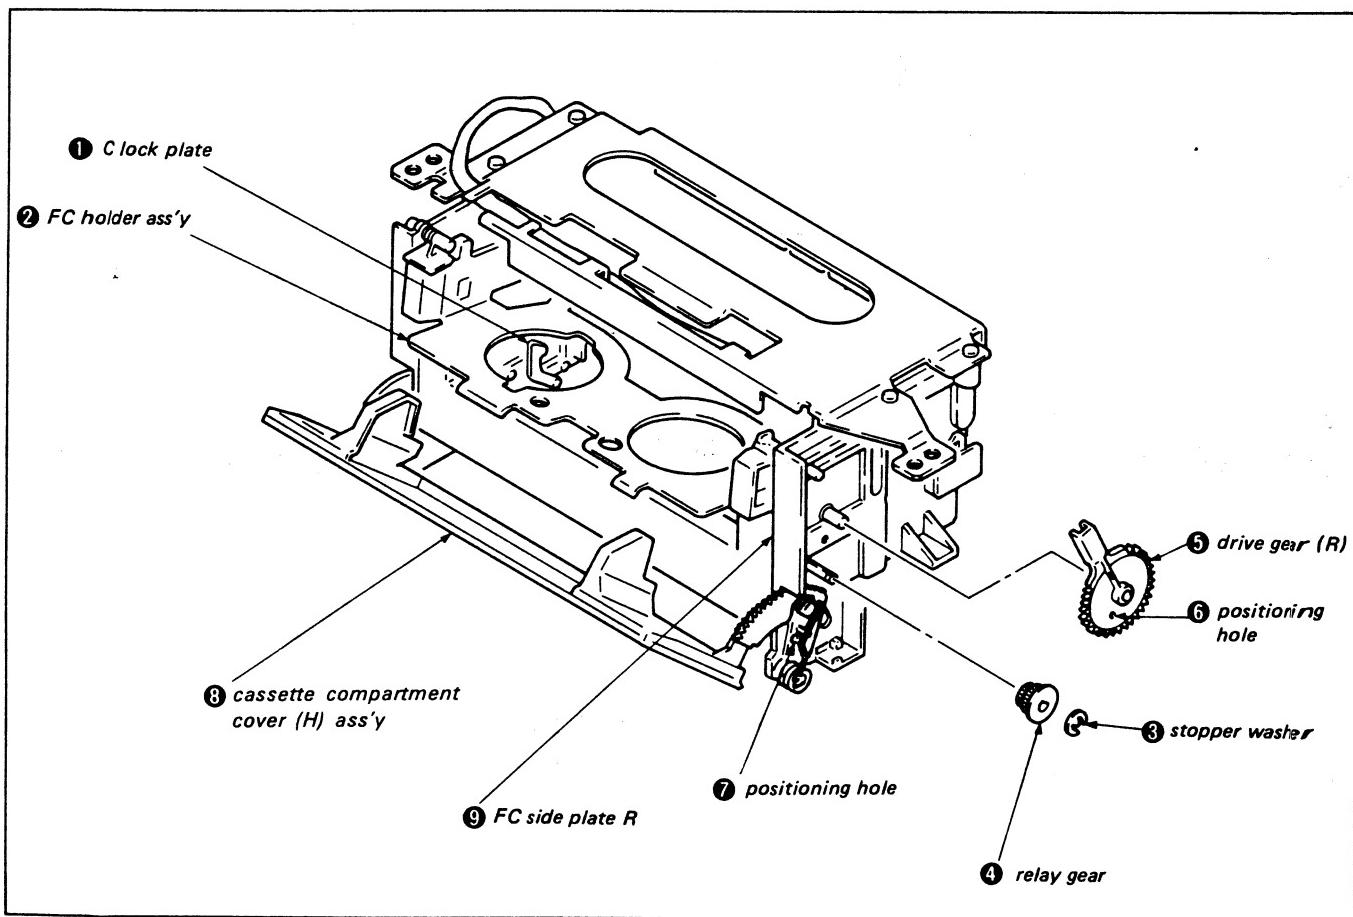

Fig. 3-56.
- 2) Release C lock plate ① and raise FC holder assembly ②.
- 3) Remove stopper washer ③ and relay gear ④.
- 4) Replace drive gear (R) ⑤.
- 5) Insert a thin rod into drive gear (R) ⑤ positioning hole ⑥ and door gear R positioning hole ⑦ and make sure that it goes through.
- 6) Mount relay gear ④ and stopper washer ③.
- 7) Close cassette compartment cover (H) assembly ⑧ and confirm that FC holder assembly ② locks.
- 8) Confirm that cassette compartment cover (H) assembly ⑧ and FC side plate R are parallel.
- 9) Release C lock plate ① and check that FC holder assembly ② comes up and cassette compartment cover (H) assembly ⑧ opens. Also, confirm that the FC holder assembly ② goes down and locks when the cassette compartment cover (H) assembly ⑧ is closed (Fig. 3-56).